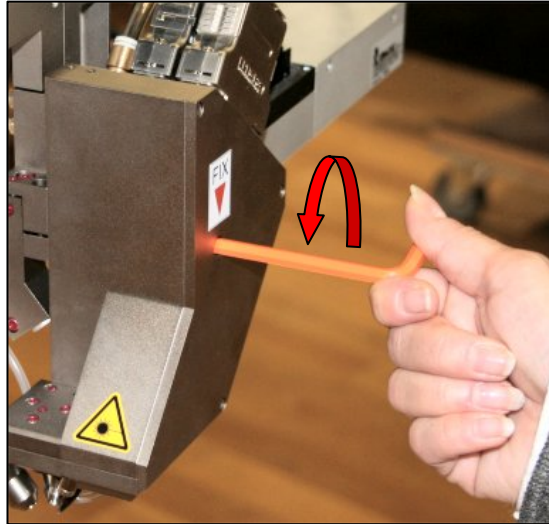

Fig. 44: Undo the fastening screw of the tube housing
3. Use an Allen key to undo the fastening screw of the tube housing at the measuring head (see Fig. 44).
4. Remove tube housing from measuring head (see Fig. 44) and store in transport box.